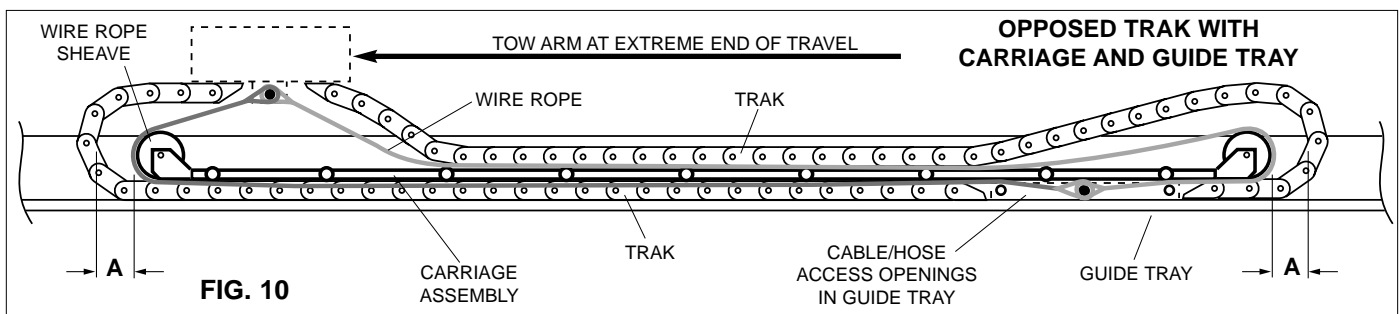

FIG. 10
STEP 6: Center carriage within loops made by POWERTRAK. (See Fig 10). Dimension "A" must be equal on both ends. **NOTE: The wire ropes must lay in a straight path above and below the carriage.**